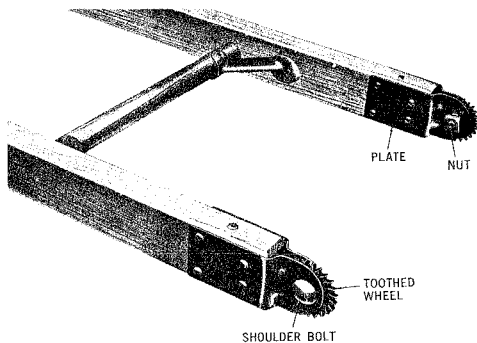

Fig. 43 — Wheel Spurs
14.08 To adjust a worn or dull wheel spur, remove the nut, lockwasher and shoulder bolt. Rotate the wheel 90 degrees, bringing the unused portion of the wheel in position for use. Replace the bolt with the shoulder properly seated in the plate and wheel. Replace the lockwasher and the nut and tighten securely. (See Fig. 43) Do not change the position of a wheel spur on only one side; always change both, even though one is not badly worn.